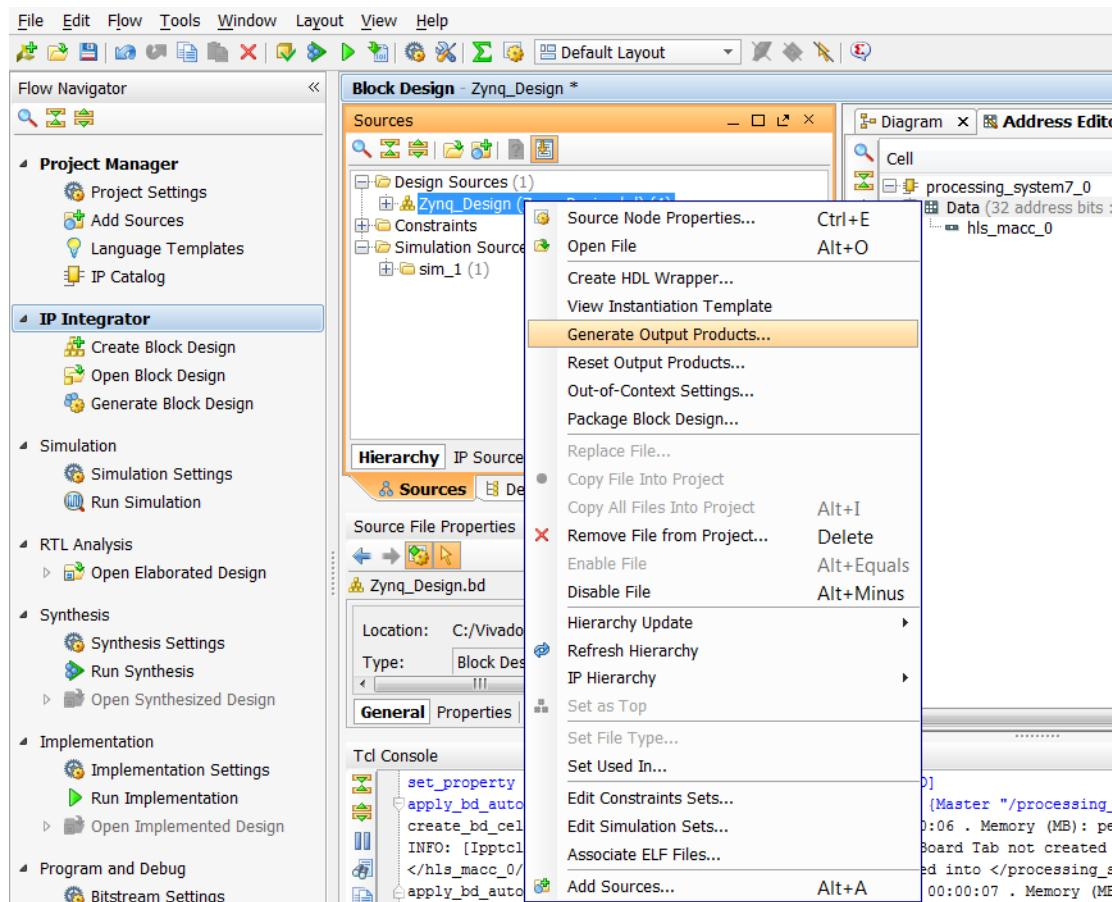

Figure 10-20: Wrapper Generation
2. In the Sources browser in the main workspace pane, a Block Diagram object called `Zynq_Design` is at the top of the Design Sources tree view (Figure 10-20). Right-click this object and select **Generate Output Products**.